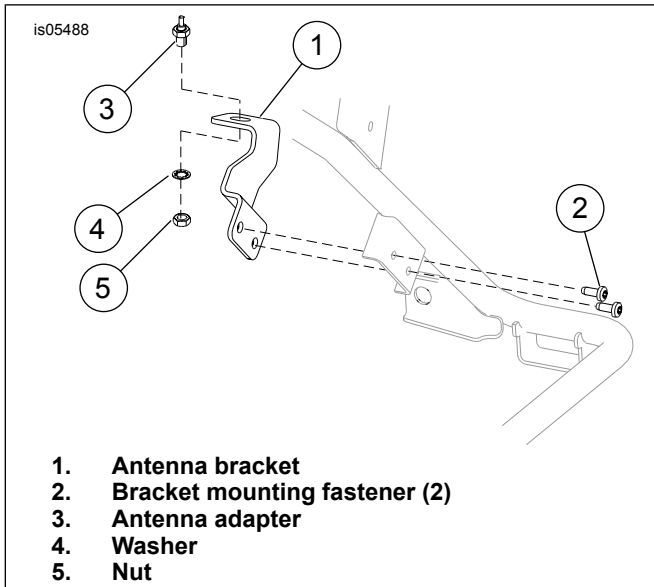
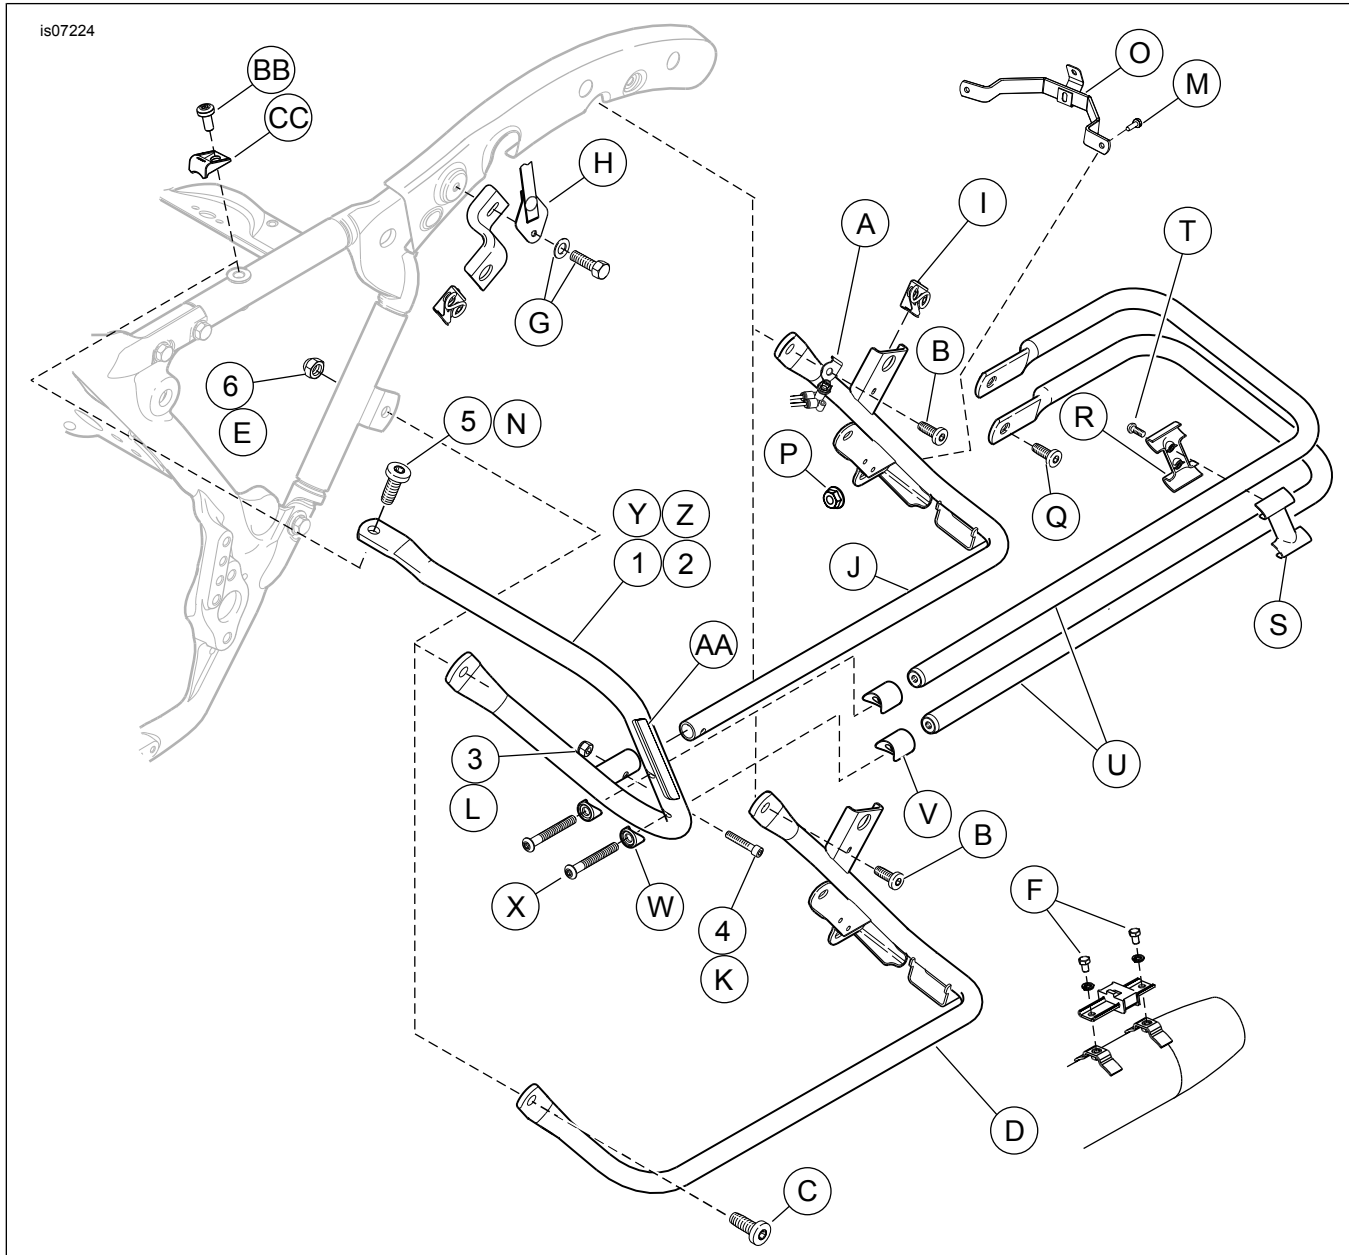

Figure 1. Remove Antenna and Bracket
Figure 3. Service Parts: Saddlebag Guard Kit (Left Side Shown)
See Figure 3 and Table 1.
2. See Figure 3. Remove grab strap screw and washer (G). Remove grab strap (H). Remove seat following the instructions in the service manual.
3. If equipped, remove seat bumper (CC) and screw (BB).
1. See Figure 3. Remove the screws (F) securing saddlebag guards to muffler supports.
2. Remove bolt (M) and nut (P). Save bolt (M) for installation. Discard nut (P).
3. Remove screws (B and C) and nut (E). Save screws (B and C) for installation. Discard nut (E).
4. Remove stud receptacle (I) and save for installation.
5. See Figure 1. Remove antenna bracket (1), mounting fasteners (2), antenna mounting nut (5), washer (4) and antenna adapter (3). Save the antenna and hardware, discard the bracket.
6. Remove support (D) and discard.
1. **For FLTR and FLHX Models:** See Figure 3.
- a. Install the rear saddlebag support mounting screw (B) through the air suspension bracket (A) and saddlebag support (J) (purchased separately). Install screw finger-tight.
- b. Install bolt (M) and nut (P) (purchased separately). Tighten finger-tight.
- c. Install stud receptacle (I) into saddlebag support (J).